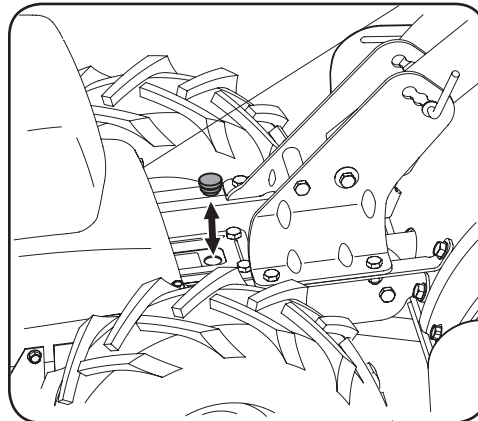

Figure 3-6
2. Remove the oil fill plug from the transmission housing cover and locate the main drive shaft situated inside the housing. See Figure 3-6.